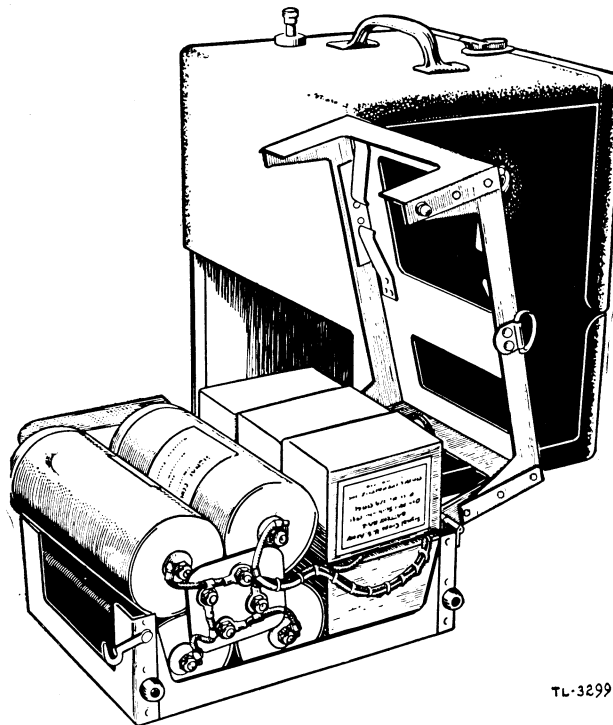

Figure 35. Frequency Meter BC-221-(2), loaded battery tray with sections separated to show construction.
b. **DESCRIPTION OF BATTERY TRAY.** The tray (fig. 35), is hinged at one end and held in place by two hooks near the opposite end. When the hooks are released, the tray should open easily and spread out to allow changing of the batteries. Place the opened battery tray so that the ring used to remove it faces the operator. Three of the six *B* Batteries BA-2 are placed in the right-hand section of the tray (the lower half), against the terminal board which is secured to the tray.